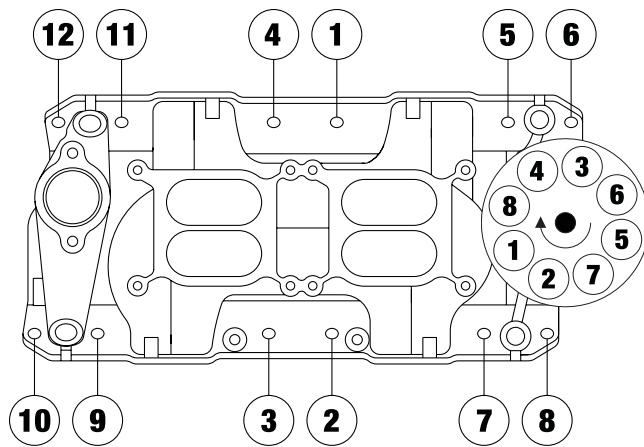

Figure 1 - 262-400 c.i.d. Small Block Chevy Torque Sequence
5. Install the intake manifold and hold-down bolts. Torque all of the manifold bolts in two steps by the sequence shown in Figure 1 to 25 ft/lbs.